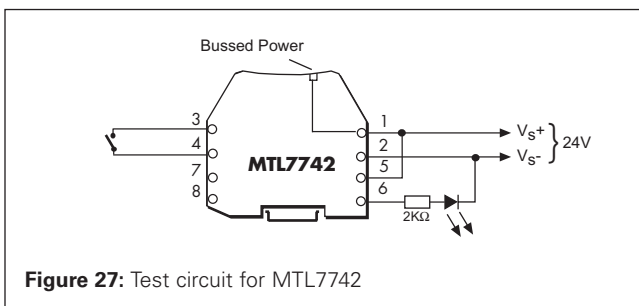

Figure 27: Test circuit for MTL7742
- Connect the barrier as shown in figure 27.